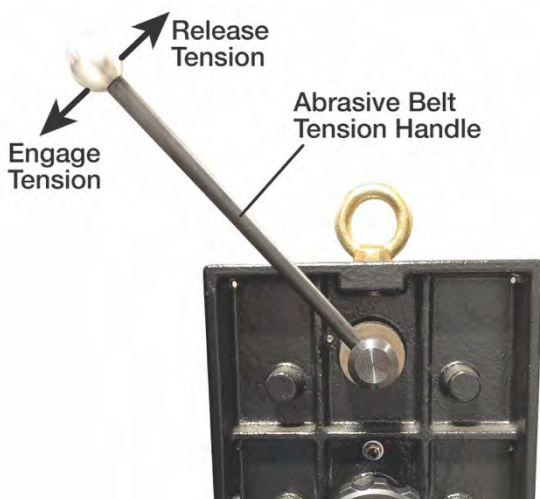

Figure 9-3: Abrasive Belt Tension Handle
5. Release the tension on the abrasive belt by rotating the abrasive belt tension handle clockwise (see Figure 9-3).